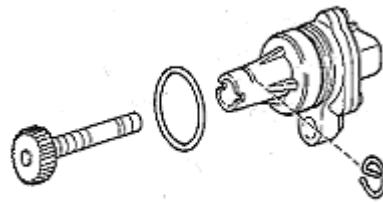

Figure 143
4. Connect vehicle speed sensor connector. See (Figure 143)